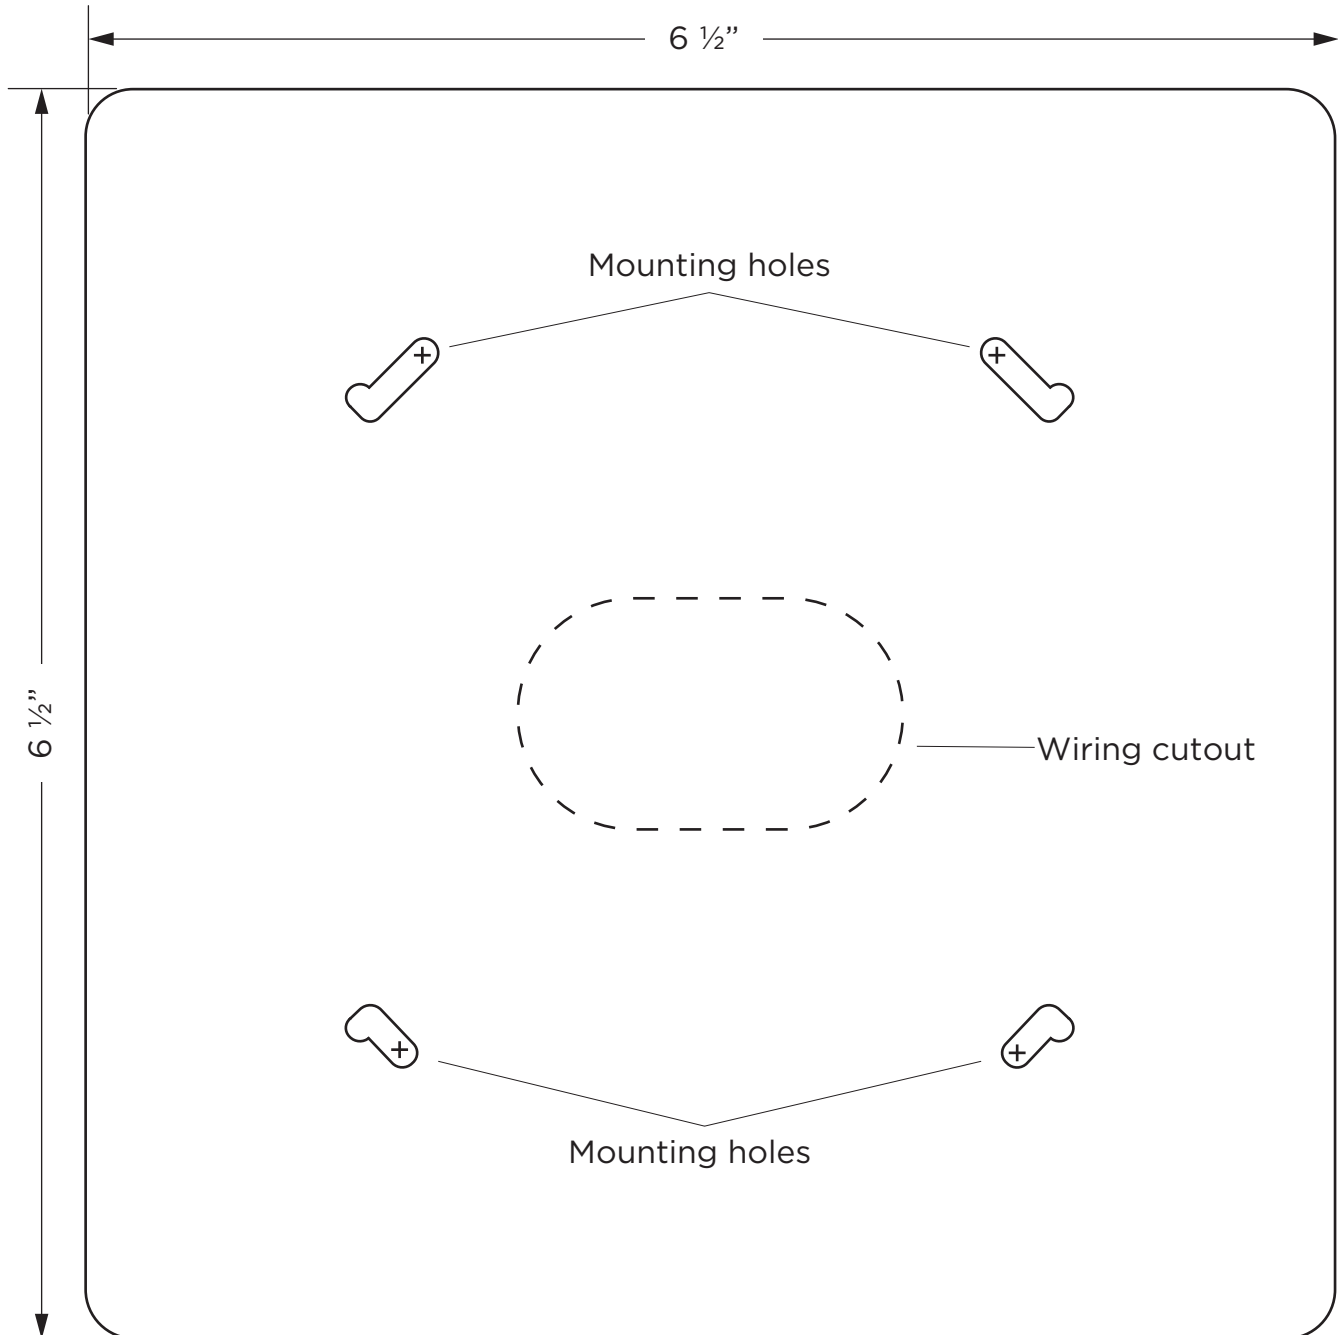

Figure 7: Mounting Template Option 1
1. Secure the template in Figure 7 or 8 to the wall. Ensure the height of the reader will comply with ADA standards once installed.